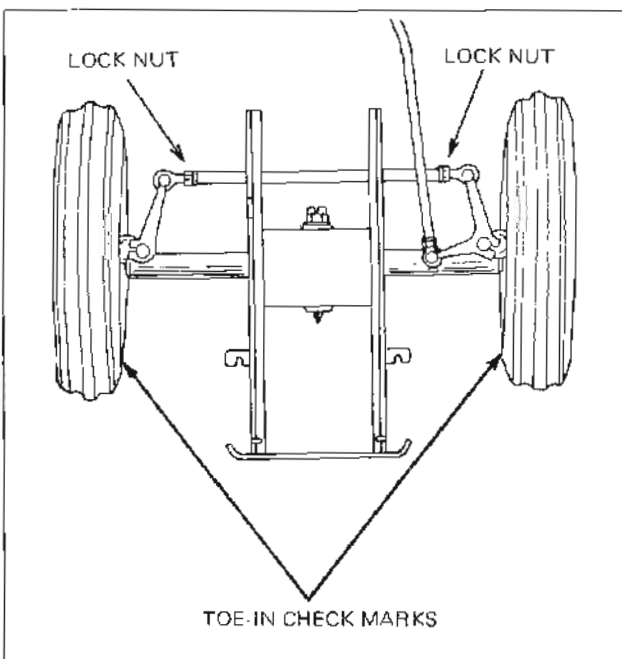

Figure 68 – Checking Toe-In
1. Determine the straight-ahead position by turning the steering wheel from lock to lock and then halfway back. After rolling the tractor forward with the front wheels in the straight-ahead position, mark the front of the wheels (not the tires) at wheel hub height, Figure 68.